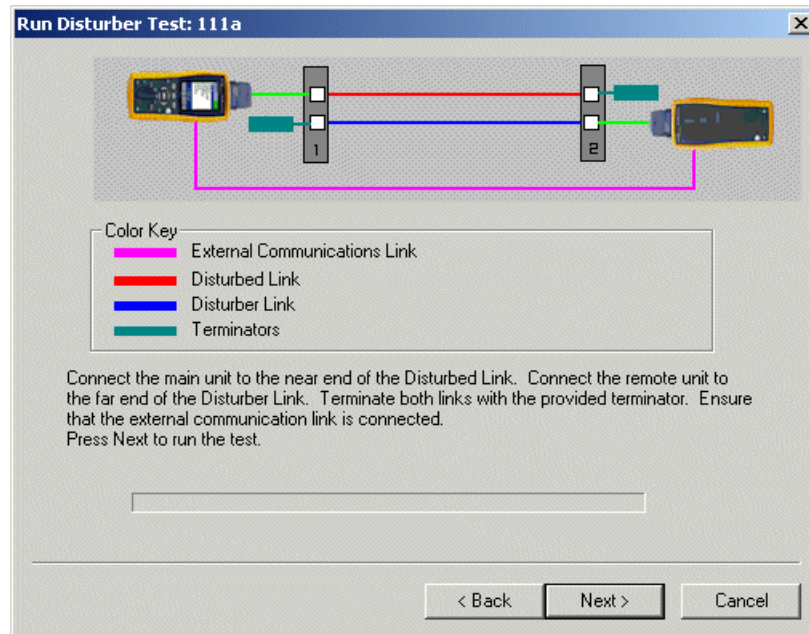

Figure 2-5. Run PS AACR-F Disturber Test
- 6 In the PS AACR-F Disturber Link Test dialog, select any disturber from the list of possible disturbers within the cable bundle and links that have positions on patch panels that are adjacent to the position of the disturbed link. Click **Next**. The Run Disturber Test window is displayed (see Figure 2-5).